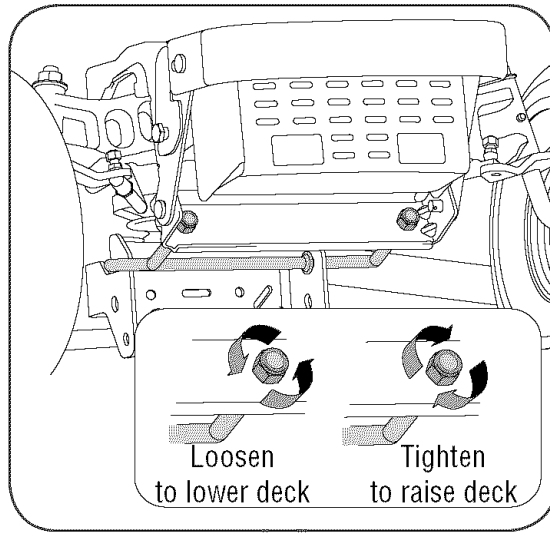

Figure 9
3. From the front of the tractor, loosen the hex lock nut on each end of the deck hanger rod, and turn away from the inner hex nuts. See Figure 9.